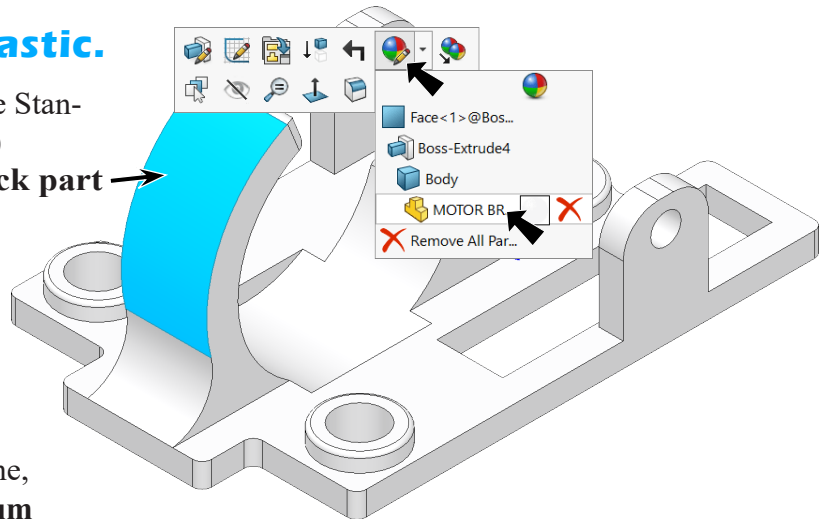

Fig. 75
Step 2. Click part, click **Appearance Callout**  on the context toolbar and click **MOTOR BRACKET** , Fig. 75.